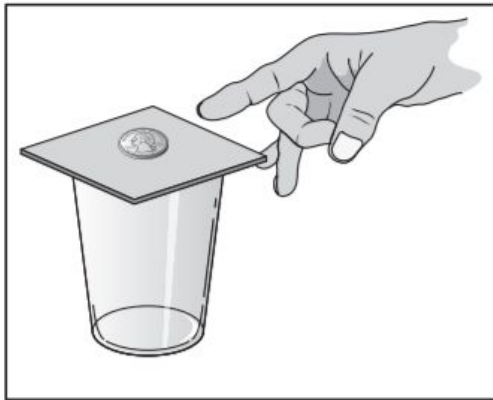
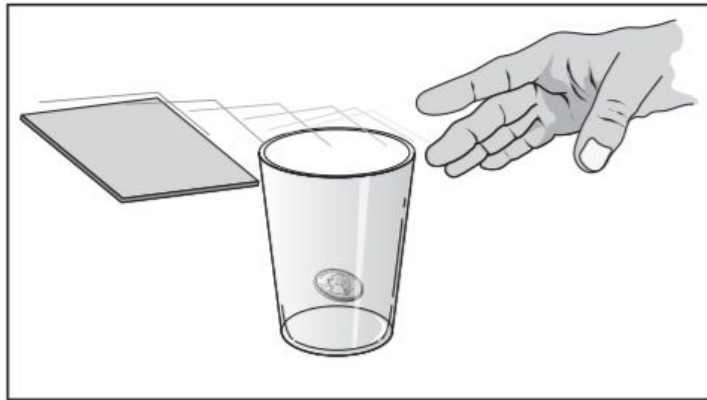

Figure 1
Figure 2
- 14** During a demonstration of Newton's laws of motion, a student used the setup shown in Figure 1. The student flicked the index card with a fingertip, and the coin fell straight down into a plastic cup as shown in Figure 2.